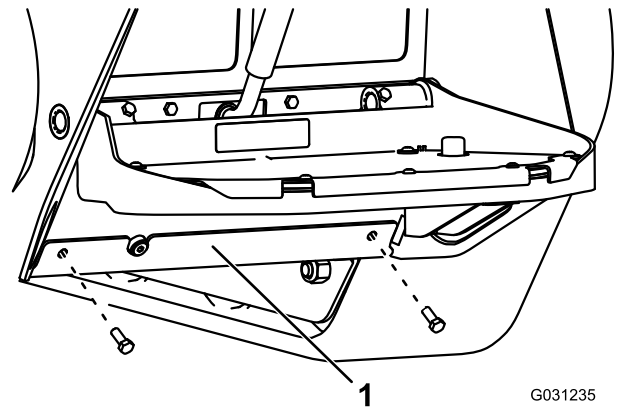

Figure 69
4. Remove the 2 bolts securing the bottom plate and remove the bottom plate (Figure 69).
8. Install the bottom plate (Figure 69).